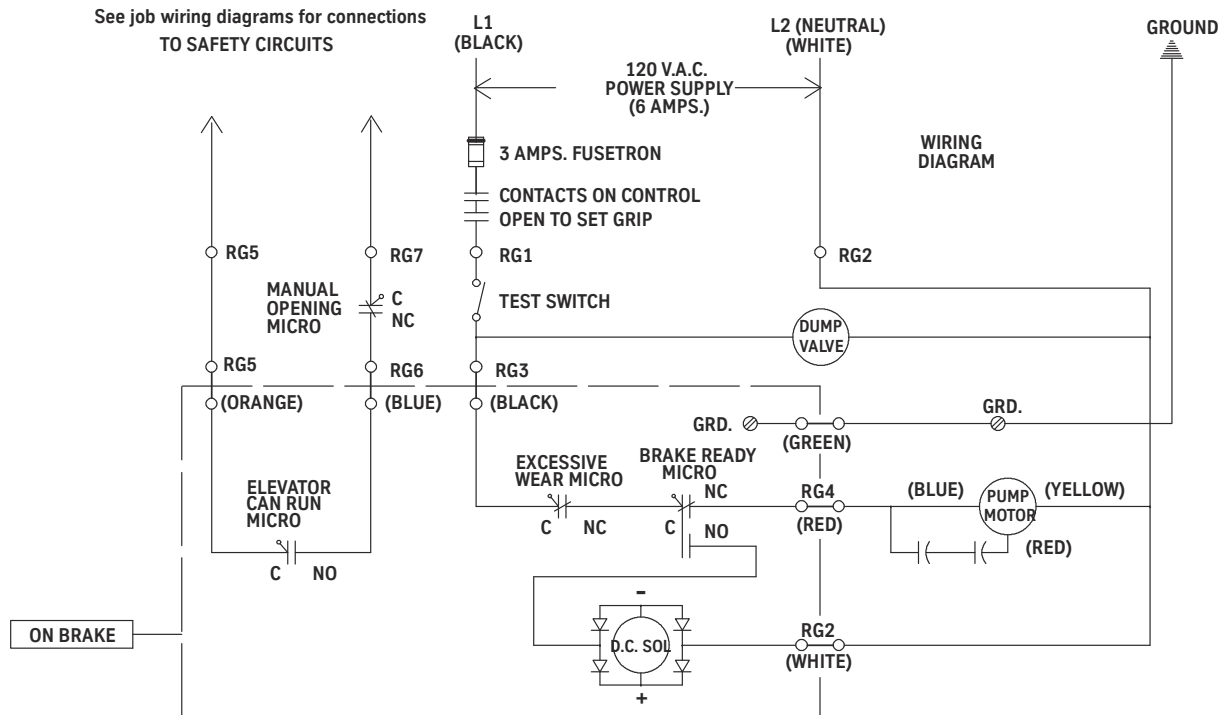

Figure 2 - Controller Wiring Diagram
14. Connect terminals RG1, RG2, RG5, and RG7 to the elevator control. Check the control diagram for proper connections. See Figure 2.